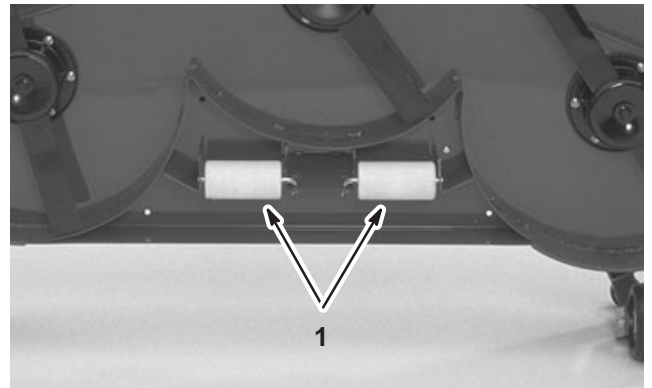

**Figure 15**
1. Remove the capscrew and nut securing the gage wheel to the cutting unit brackets (Fig. 15).